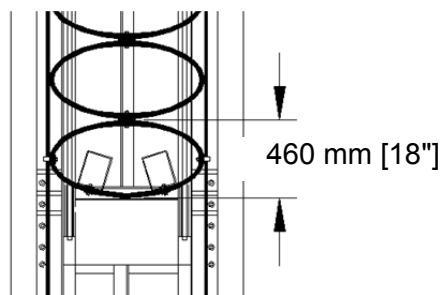

Figure 30 - Measure Minor Axis
The REACT 350[®] system must be inspected after each impact. Depending on the impact, components may get damaged and need replacement. A cylinder requires replacement when the minor axis of the cylinder stays permanently at 460 mm [18"] or less (see Figure 30) or the system does not reach 90% of the original length. It is critical that all cables and anchoring be checked and returned to original assembly conditions. Any parts used in the repair of the system must be original Trinity Highway parts (see p. 3).
5. Verify that all Cylinders are in good condition and properly positioned on the Base Track. Any Cylinder that is cracked or otherwise damaged should be replaced. Measure the minor axis of the Cylinders. Cylinders require replacement when the minor axis of the cylinders measures 460 mm [18”] or less (see Figure 30 on page 31).
4. Check the condition of the Cylinders. Any Cylinder that is cracked or otherwise damaged should be replaced. Measure the minor axis of the Cylinders. Cylinders require replacement when the minor axis of the Cylinders measures 460 mm [18"] or less (see Figure 30 on p. 31).